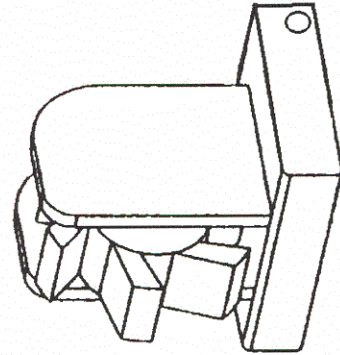

Figure B7: Paddle Wheel Speedo Sender
The electronic speedometer on the Horizon 170 Luxury Sport (LS), Horizon 180 Luxury Sport (LS), and Horizon 190 has a paddle wheel sender. This speedo sender provides accurate incremental readings (+/- 1.5 MPH) at low speeds as well as high speeds. The speedometer pick-up is located on the transom. See Figure B7. The paddle wheel extends below the hull.